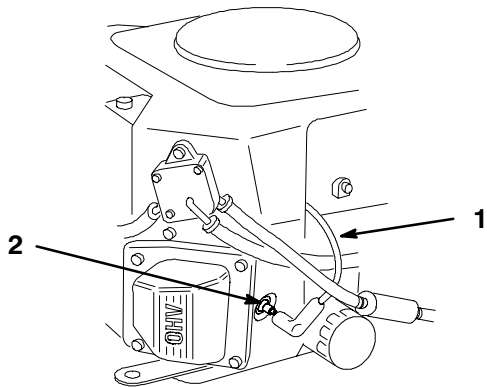

Figure 23
3. Pull the wire(s) off the spark plug(s) (Fig. 23). Now clean around the spark plug(s) to prevent dirt from falling into the engine and potentially causing damage.
3. Push the wire(s) onto the spark plug(s) (Fig. 23).